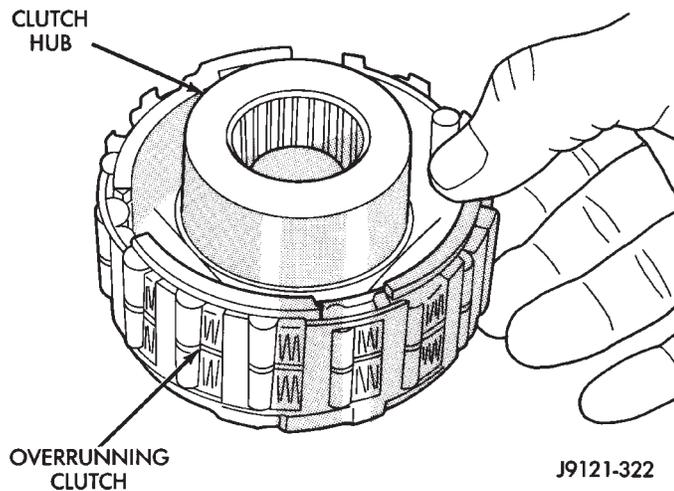

Fig. 240 Assembling Overrunning Clutch And Hub
(8) Install overrunning clutch on hub (Fig. 240). **Note that clutch only fits one way. Shoulder on clutch should seat in small recess at edge of hub.**
(9) Install thrust bearing on overrunning clutch hub. Use generous amount of petroleum jelly to hold bearing in place for installation. **Bearing fits one way only. Be sure bearing is seated squarely against hub. Reinstall bearing if it does not seat squarely.**